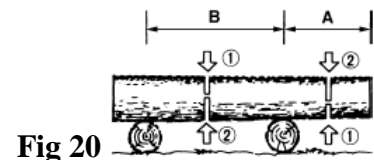

Fig 20
- When the log is supported on one end (Fig 20) zone A: cut 1/3 the diameter from the underside (underbuck). Then make the finished cut by overbucking the upper 2/3 to meet the first cut i.e. saw up from the bottom 1/3 and finish by sawing down from the top.
- When the log is supported on both ends (Fig 20) zone B: cut 1/3 the diameter from the top (overbuck). Then make the finished cut by underbucking the lower 2/3 to meet the first cut i.e. saw down from the top 1/3 and finish by sawing up from the bottom.